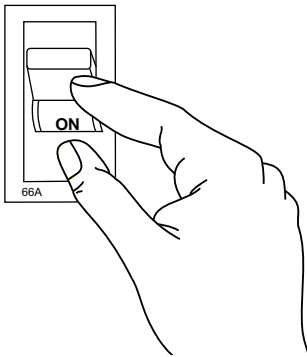

Figure 54. Main Circuit Breaker (ON)
15. Place the **main** circuit breaker in the **ON** position (Figure 54).